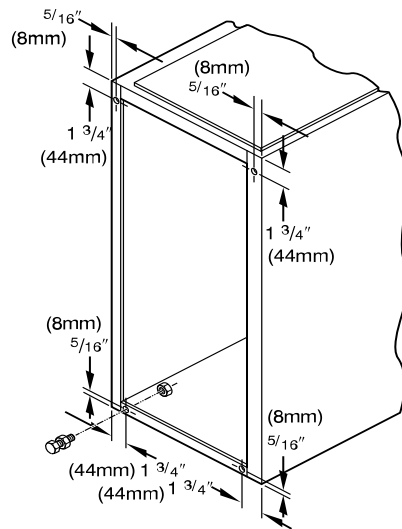

Fig. 10 – Leveling Legs
In upflow position with side return inlet(s), leveling legs may be used (see Fig. 10). Install field-supplied, 5/16 x 1-1/2 in. (8 x 38 mm) (max) corrosion-resistant machine bolts, washers and nuts.
1. Position furnace on its back. Locate and drill a hole in each bottom corner of furnace (see Fig. 10).